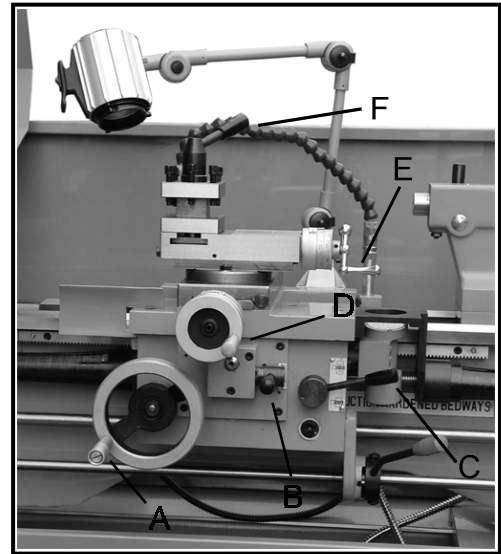

Fig. 16
11. **Longitudinal Traverse Hand Wheel (A, Fig. 16)** – located on the apron assembly. Rotate hand wheel clockwise to move the apron assembly toward the tailstock (right). Rotate the wheel counter-clockwise to move the apron assembly toward the headstock (left).
12. **Feed Selector (B, Fig. 16)** - located in the center front of the apron assembly. Push lever to the left and up activates the crossfeed function. Pull lever to the right and down activates the longitudinal function.
13. **Half Nut Engage Lever (Thread Cutting)** – (C, Fig. 16) located on front of the apron. Move the lever down to engage. Move the lever up to disengage.
14. **Cross Traverse Handwheel (D, Fig. 16)** – located above the apron assembly. Clockwise rotation moves the cross slide toward the rear of the machine.
15. **Compound Rest Traverse Handwheel (E, Fig. 16)** – Located on the end of the compound slide. Rotate clockwise to move or position.
16. **Tool Post Clamping Lever (F, Fig. 16)** – located on top of the tool post. Rotate counter-clockwise to loosen and clockwise to tighten.